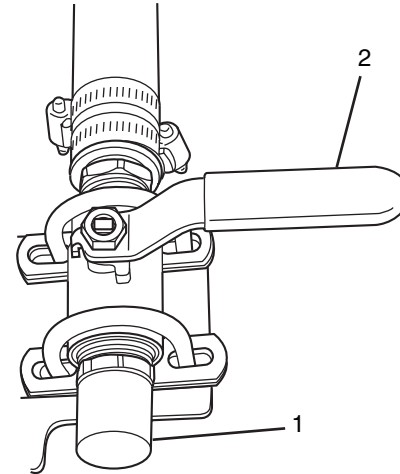

Figure 38
4. Connect a hose to the fitting (Figure 38, Item 1).
5. Open the valve (Figure 38, Item 2).